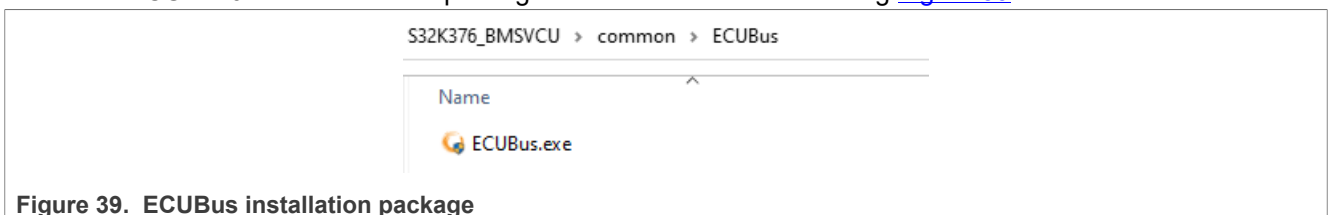

Figure 39. ECUBus installation package
- The ECUBus0.2.24 installation package can be found in the following Figure 39.
- ECUBus tool. Find the ECUBus installation package in Figure 39.